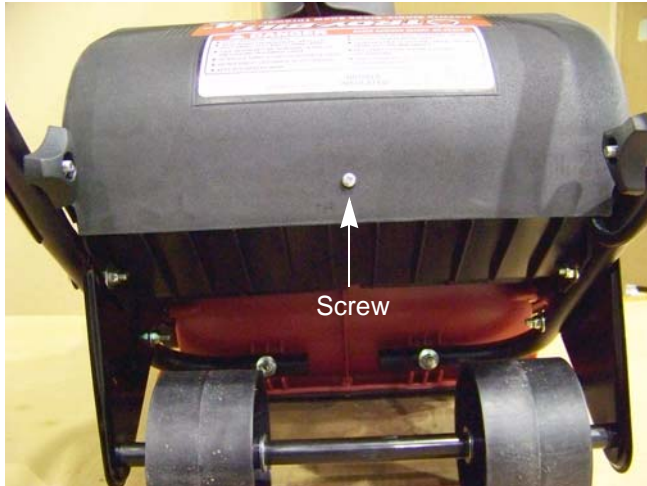

Figure 3.6
5. Remove the screw from the rear of the motor cover using a #2 phillips screw driver. See Figure 3.6.